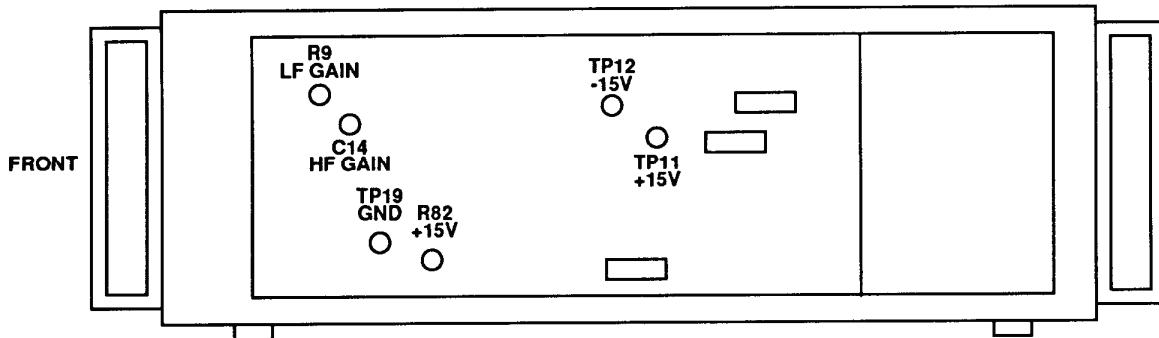

Figure 3. Precision power amplifier, Fluke, model 5215A - adjustment locations.
- (1) Adjust R9, LF GAIN (fig. 3) for TI measured output of 500 Vac (R).
- (2) Adjust C14, HF GAIN (fig. 3) for TI measured output of 500 Vac (R).
- (1) Adjust R9, LF GAIN (fig. 3) for best null indication on multimeter (R).
- (2) Adjust C14, HF GAIN (fig. 3) for best null indication on multimeter (R).
- (1) Connect multimeter between TP11 +15V and TP 19 GRD (fig. 3). If multimeter does not indicate between 14.95 and 15.05 V, perform **b** below.
- (2) Connect multimeter between TP 12 -15 V and TP 19 GND (fig. 3). Multimeter will indicate between -14.65 and -15.35 V.
- b. Adjustments.** Adjust R82 +15V (fig. 3) for a multimeter indication between +14.95 and 15.05 V dc (R).